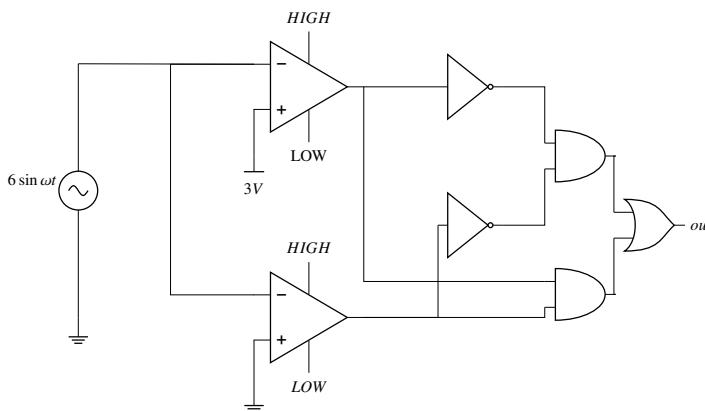

Fig. 3.22: Circuit Daigram
38. In the circuit shown below in Fig. 3.22, assume that the comparators are ideal and all components have zero propagation delay. In one period of the input signal  $V_{in} = 6 \sin(\omega t)$ , the fraction of the time for which the output OUT is in logic HIGH is